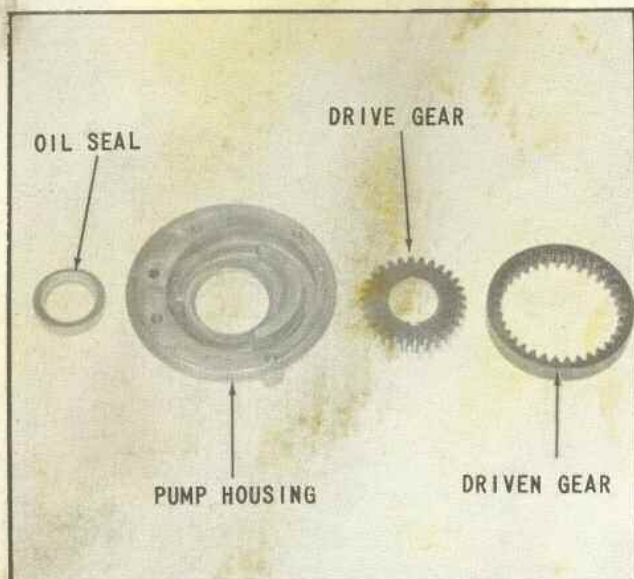

Fig. 62 Front Pump Parts for Assembly 71C-A60
57. Collect the parts shown in (Fig. 62) and check carefully for the following: